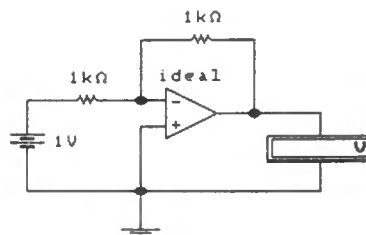

Fig. 5.8 Inverting amplifier circuit (Assignment 5.1).
- 1. Connect the inverting amplifier circuit shown in Fig. 5.8. Check that the values of input and feedback resistor are both  $1k\Omega$  and that the input voltage (from the battery) is 1V.
- 8. Finally, return to the circuit of Fig. 5.8 with  $V_{IN} = 1V$ . Choose a value for  $R_F$  that will produce an output voltage of 10V (i.e., a voltage gain of exactly 10). Check that the circuit works and note down the value of  $R_F$  used.